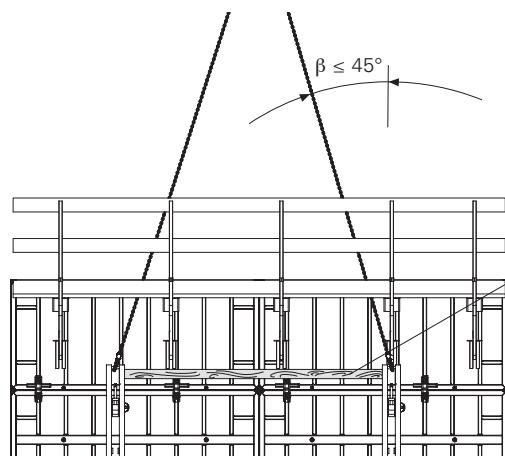

Fig. B2.15
3. Place Strongback CB (4) on the connectors. Bottom projecting length: see Planning or C1.
7. Fix Strongback CB at top. (Fig. B2.15)